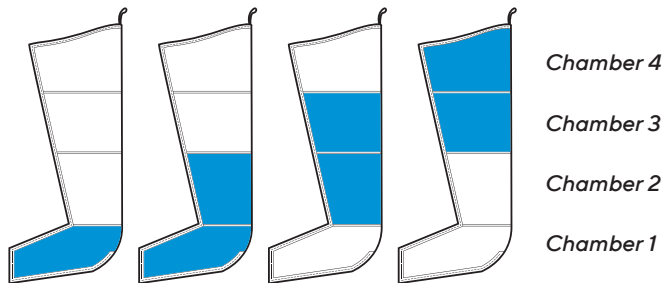

Figure 4 - Wave Cycle Mode
- For example: When chamber 2 is full, then chamber 1 starts to deflate, while chamber 3 starts to inflate, so for a moment, there are 2 chambers reaching the target pressure at the same time. (See Figure 4)